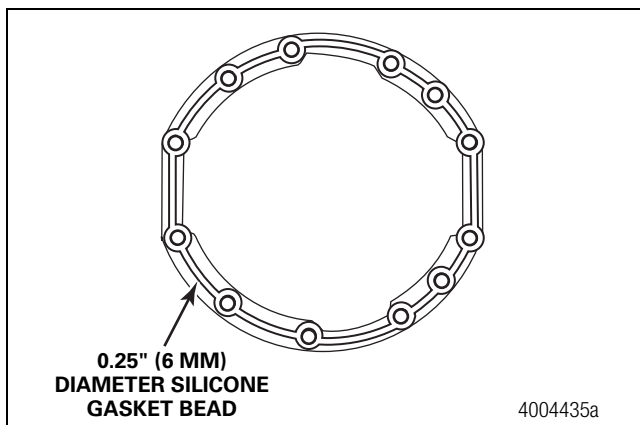

Figure 4.15
- Apply a 0.25-inch (6 mm) bead of Loctite® 5699 silicone gasket material to the housing face. Do not use ThreeBond 1216E silicone products. Figure 4.15.